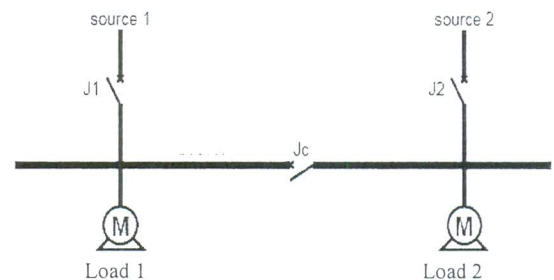

Fig. 2
- Try to design the control circuit, using hardwires and PLC, of a substation has the single line diagram as shown in Fig. 2. The system operates as two different sources with two different loads in normal situation. While it works as automatic transfer switch if one of the two feeders does not serve. The operation is summarized in the following Table